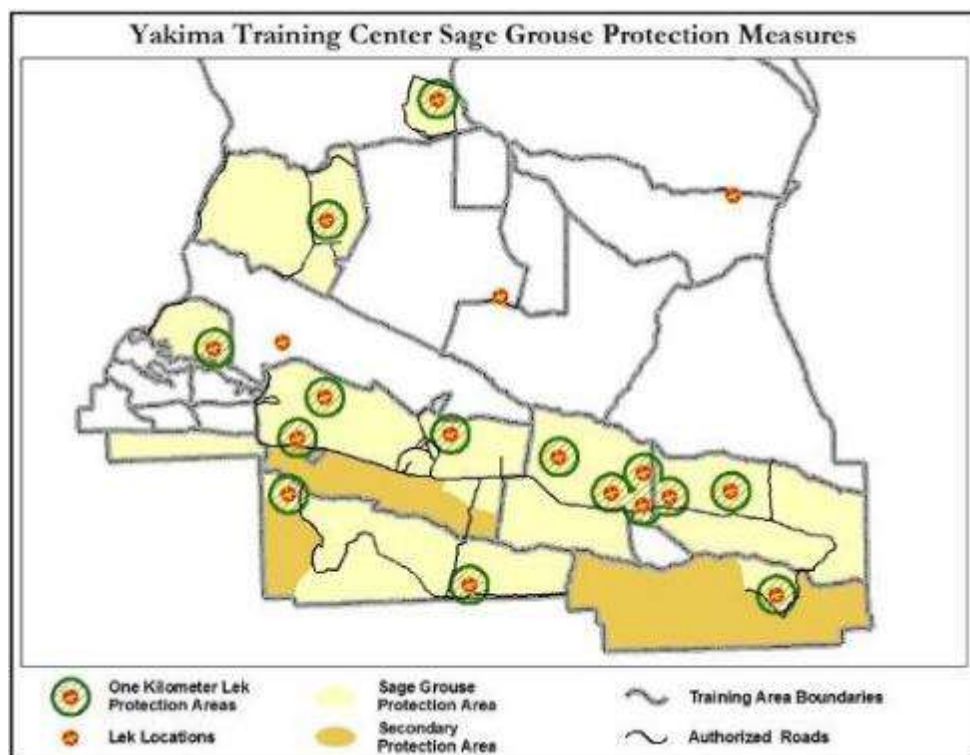

Figure 4-3. Map of Sage-Grouse Protection Areas
a. The Sage-grouse is a federal species of concern; Army Species at Risk, and Washington State threatened species. In accordance with federal law and Army Regulations, JBLM-YTC protects this species and its habitat. Training activities in Sage-grouse protection areas are closely managed and must be coordinated in advance with Range Operations and the DPW Environmental Division. Sage-grouse protection measures are broken into three components; Lekking (Breeding), Nesting and Brood Rearing, and Year-Round Habitat Protection. See figure 4-3 for Sage-grouse protection areas and a map of designated roads.